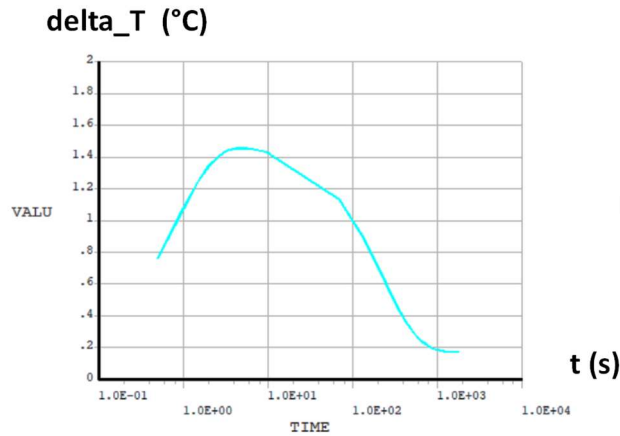
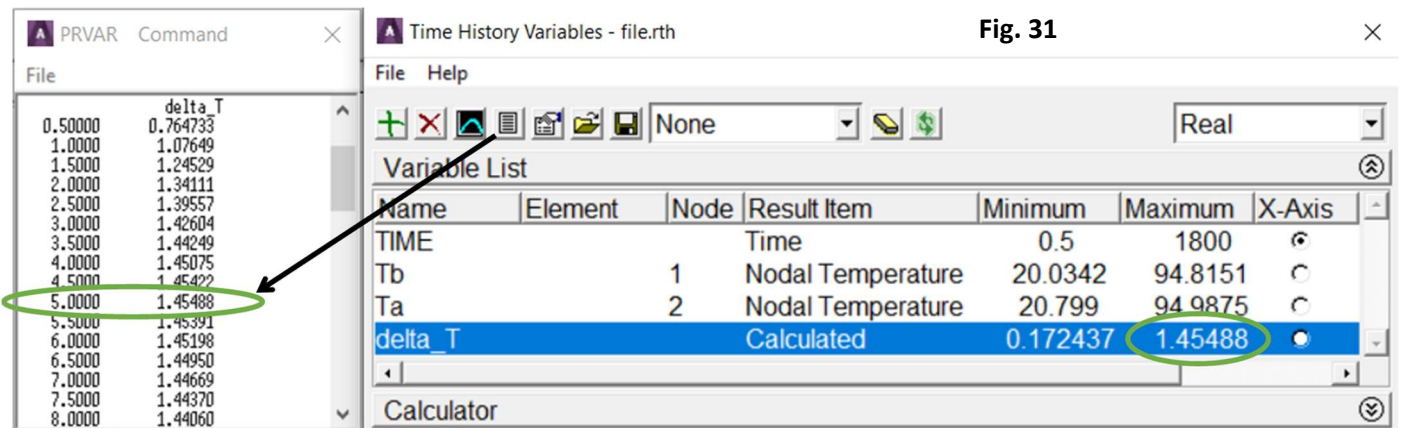

Fig. 30
Fig. 31
11. Set a logarithmic scale for the time axis (Utility Menu>PlotCtrls>Style>Graphs>Modify Axes...> X-Axis Scale->Logarithmic). Plot and save the graph of \$\delta_T\(t\)\$ (Fig. 30). Check the time of δ_T max (Fig. 31).